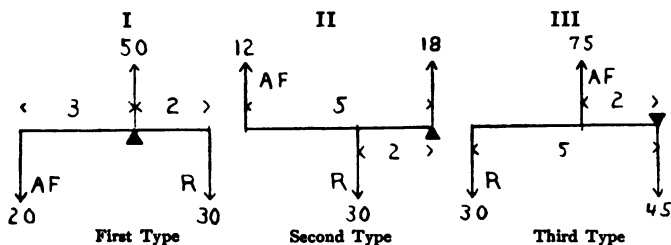

FIG. 259.—LEVERS OF THE THREE TYPES
**284. Types of Levers.** It is easy to see that any one of the three forces may be made the fulcrum of a lever. There are three ways in which this may be done, which give us the three types of levers (Fig. 259). One of the forces always acts in opposition to the other two, with its point of application between them, and it is equal to their sum. In all cases  $A F \times \text{arm} = R \times \text{arm}$ .